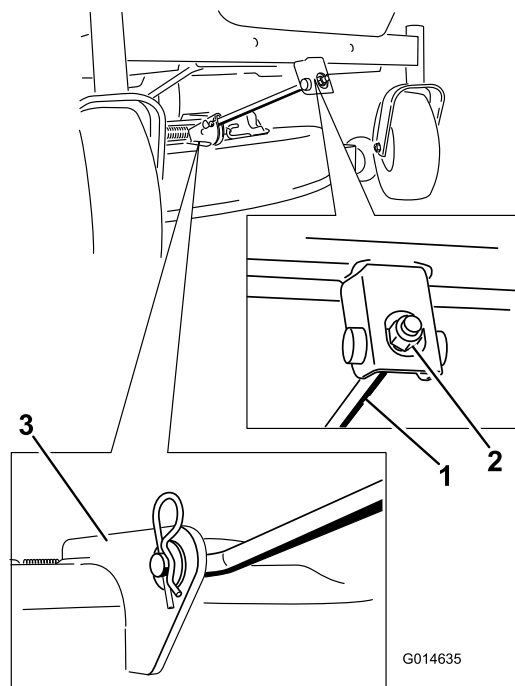

Figure 64
4. Remove the hairpin cotter from the front support rod and remove the rod from the deck bracket (Figure 64). Carefully lower the front of the mower deck to the ground.
6. Attach the front support rod to the mower deck with the clevis pin and hairpin cotter (Figure 64).